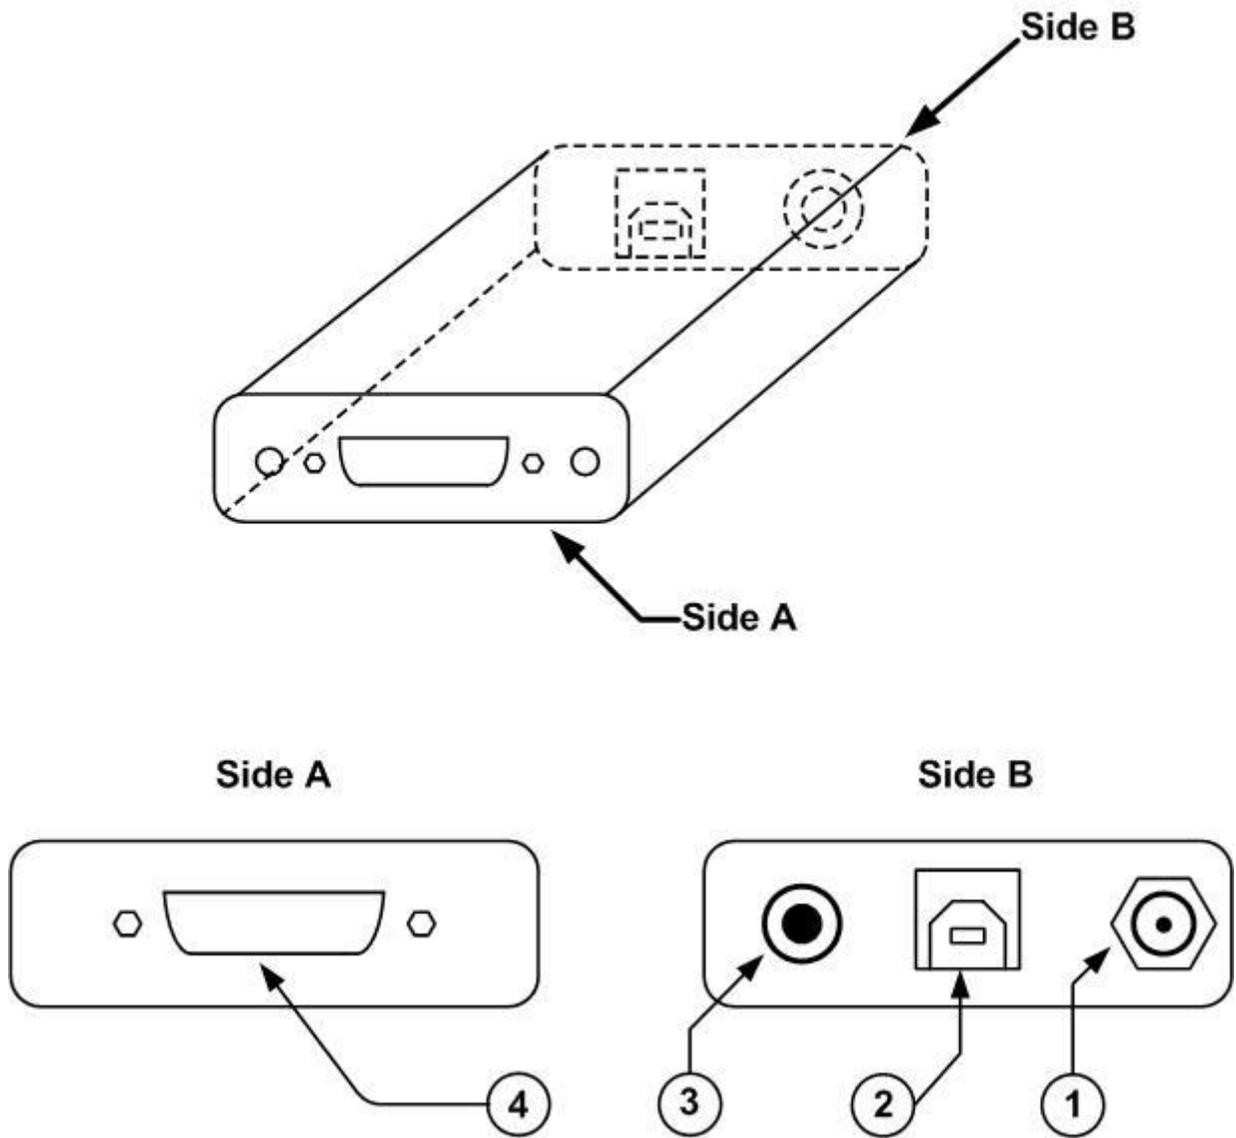

Fig. 3-1 11P-LINK Top Panel
### 3 Front Panel Description : See figure 3-1 below
- 3- Connect a version 5 (or higher) power or energy detector head to the 11P-LINK using the **PROBE INPUT JACK** (see Fig. 3-1) while the 11P-LINK is disconnected from the PC.